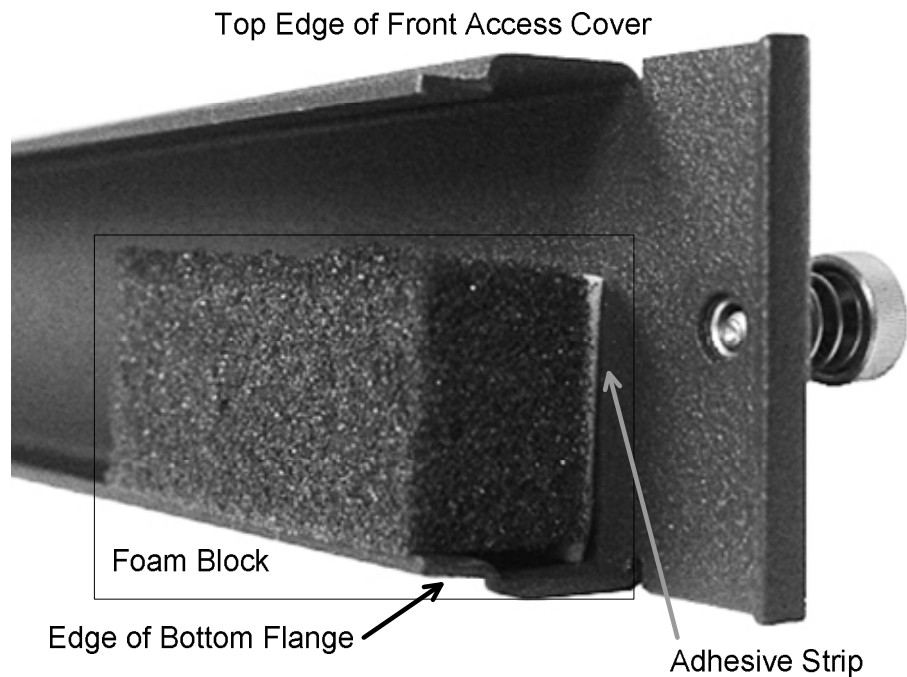

Figure 3-3 Location of Foam Stabilizer Block
5. Orient the front access cover so that the top edge as shown in Figure 3-1 is facing up, and you can access the inside of the cover as shown in Figure 3-3.
6. The foam stabilizer block must be installed against the bottom flange as shown in Figure 3-3.